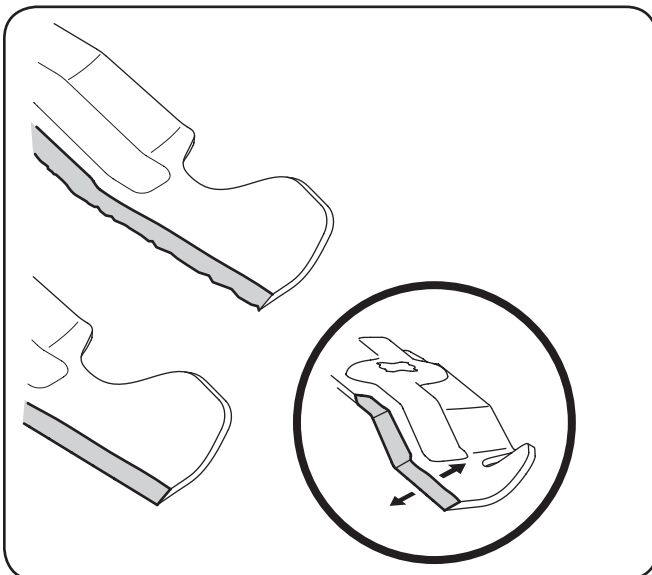

Figure 7-10
4. To properly sharpen the cutting blades, remove equal amounts of metal from both ends of the blades along the cutting edges, parallel to the trailing edge, at a 25°- 30° angle. Always grind each cutting blade edge equally to maintain proper blade balance. See Fig. 7-10.